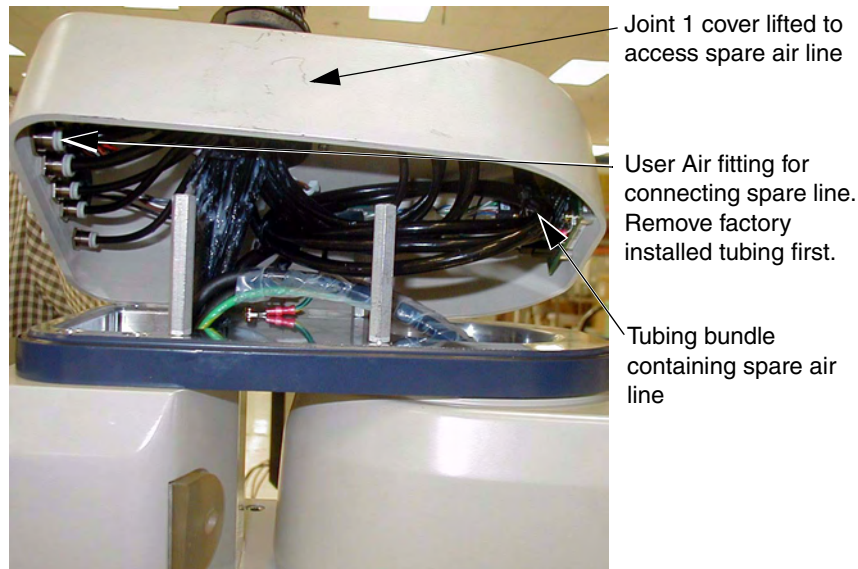

Figure 6-11. Connecting Spare Air Line to User Connector
12. Remove the four screws for the Joint 1 cover and lift the cover up so you have access to the tubing under the cover. See Figure 6-11.
13. Disconnect the tubing from the 6mm User Air fitting shown in Figure 6-11. Fold the tubing out of the way and restrain using tie-wraps.